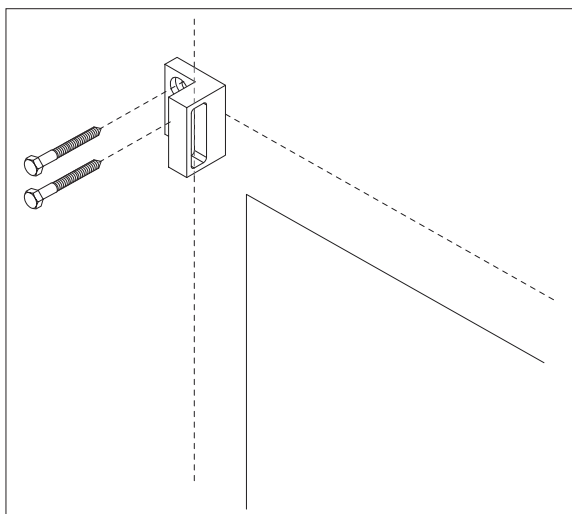

Figure 4
6. Attach the end bracket using two lag screws (provided) using a socket wrench with 9/16" socket (Figure 4).